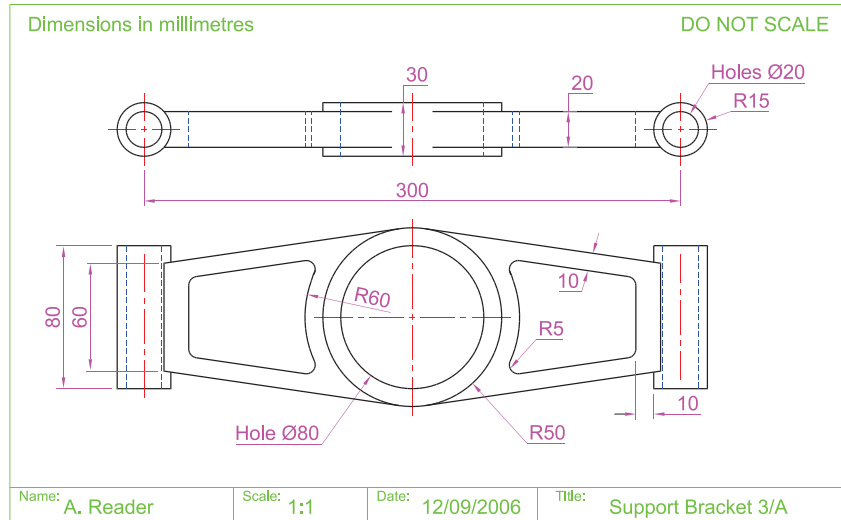

Fig. 13.8 Working drawing for the second example
3. In the **Top** viewport construct an outline of the web of the Support Bracket shown in Fig. 13.8. With the **Extrude** tool, extrude the parts of the web to a height of **20**.